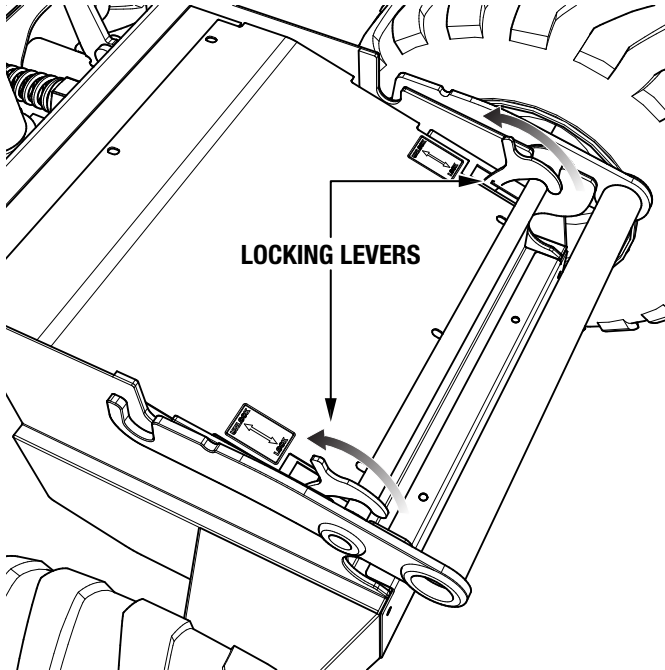

Figure 5. Locking Levers (Unlock)
2. Place both locking levers in the **unlock** position (Figure 5).